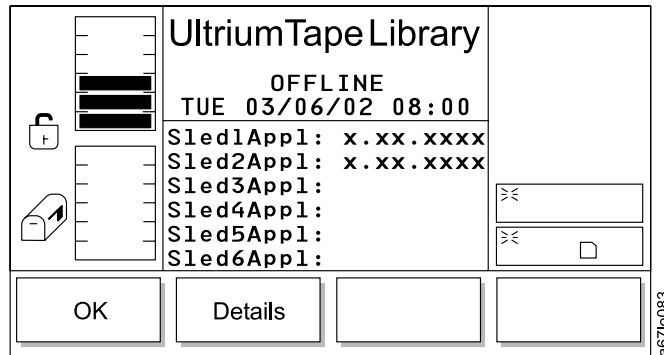

Figure 199. Detail Dialog (secondary screen)
- If **Details** is selected, the Detail Dialog (secondary screen) displays (see Figure 199).